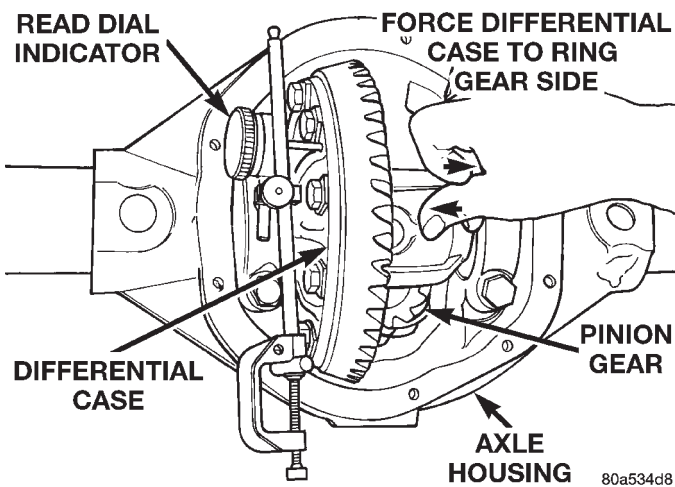

Fig. 79 Hold Differential Case and Read Dial Indicator
(23) Push and hold differential case to ring gear side of the axle housing (Fig. 79).
(24) Record dial indicator reading (Fig. 79).